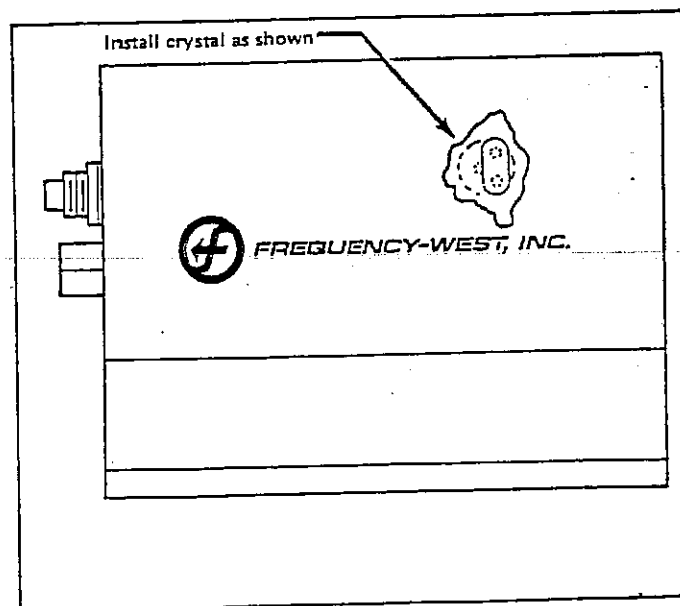

Figure 2
2. Clip the replacement crystal leads to between 0.150 and 0.190 inch in length. Insert the crystal in its socket. See Figure 2. For best results use crystals meeting Frequency West Specifications 37-051990 and 37-051991.